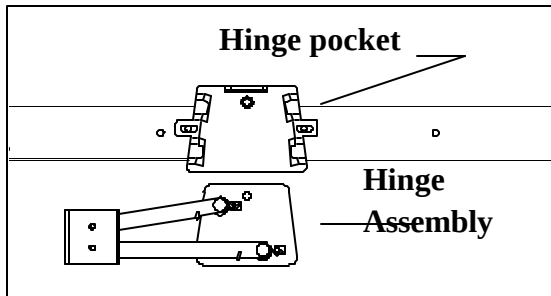
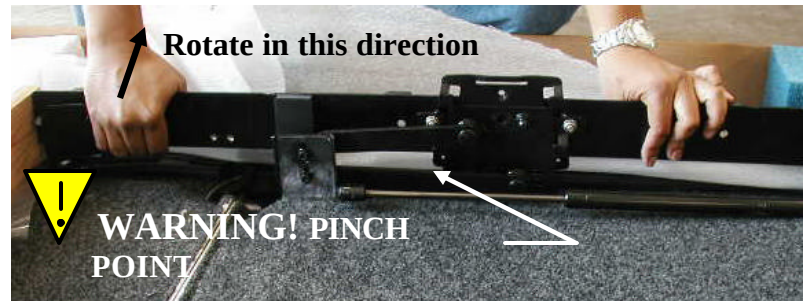

Figure 2.
Figure 3.
4. Remove the hinge assembly from the pockets on the frame (Figure 2). This will require loosening and removing the plastic threaded knobs. To remove the hinge assembly from the pocket, grab the frame as shown in Figure 3 and rotate up. ** WARNING! The hinge assembly is spring-loaded and could become a pinch point.**